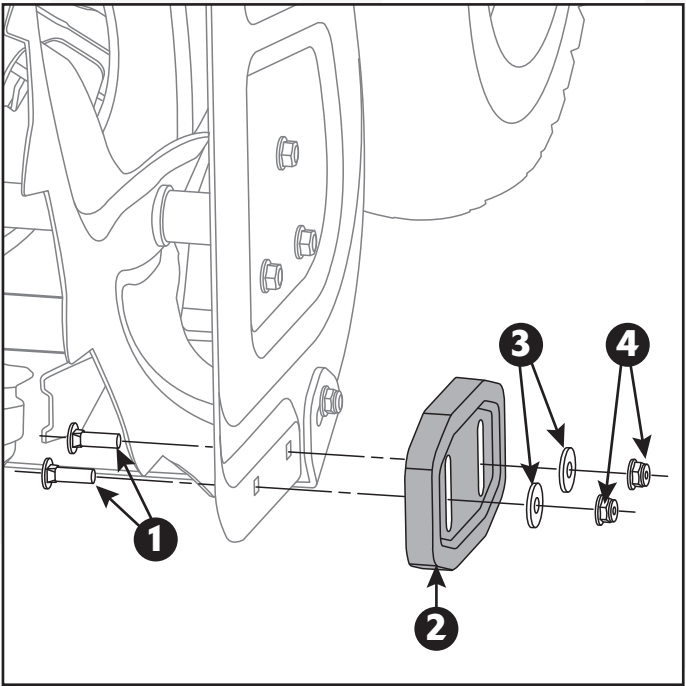

Fig. 6
1. Attach adjustable skid shoes to auger housing. Insert bolts from the inside of the auger housing and secure the skid shoe with washers and nuts. Do not over tighten. (Fig. 6).